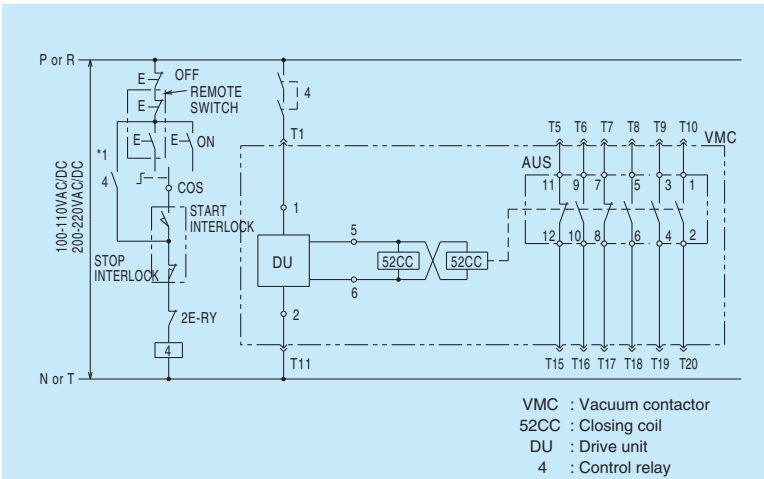

Fig. 15 Non-Latched type operating circuit
The typical operating circuit is shown in Fig. 15 indicating type CV-10HA/10HB contactor. Make sure to use the "NO" contacts of quick operating relay (4) self-holding circuit. Do not use the "NO" auxiliary contacts of vacuum contactor, this may cause the welding of main contacts when the start (ON) button is pushed incompletely. (refer to the marked 1 in figure)